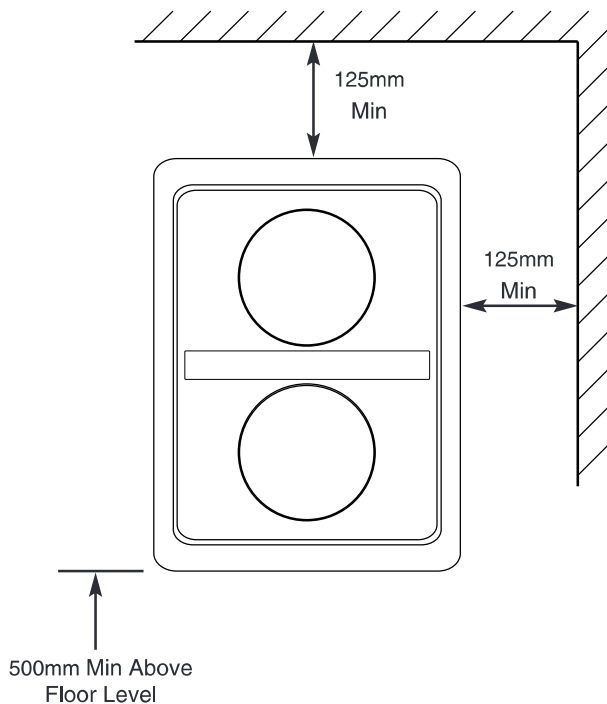

Fig. 3
11. The internal grille surround must be sited at least 125mm away from any wall or projecting surface (Fig. 3).